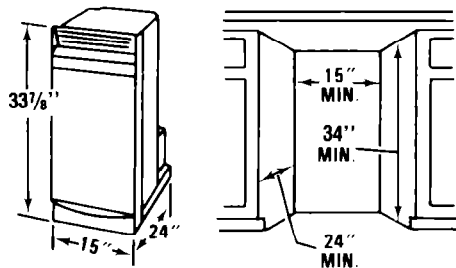

FIGURE 4
3. The compactor's overall dimensions are: Height 33⁷/₈" (min.), Depth 24", Width 15". Select a cabinet opening to fit. See Figure 4.